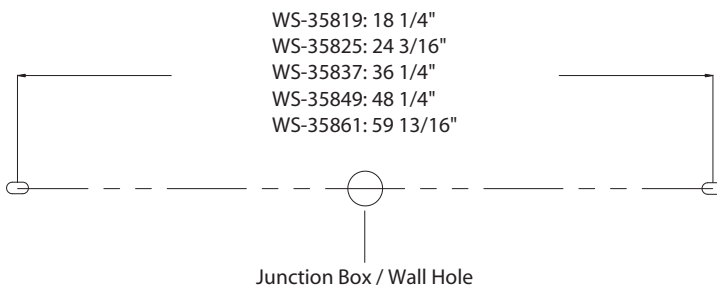

Fig.3 Wiring
3. Drill a fixture mounting hole according to (installation location), insert the plastic anchor (F). Line up the center line of the drill holes with respect to the center line of the junction box to allow the decorative plate (E) properly cover up the junction box opening on the wall.
4. Secure the decorative plate (E) to the fixture with assembly screw (C), then replace the existing silicon gasket with the supplied silicon gasket (D).
5. Remove the mounting screw (B) and the end cap from the fixture.
6. Connect the fixture's wires to house wires as shown in Fig.3, making sure that all wire connectors (A) are secured. If your outlet box has a green or bare copper ground wire, connect the fixture's ground wire to it. Otherwise, tuck the fixture's ground wire directly to the fixture. After wires are connected, tuck them carefully inside the junction box.
7. Slide acrylic diffuser and PC strip slightly out of the way to review the plastic anchor location on the back, then fasten the fixture to the wall using wood screw (G), make sure to align the decorative plate to adequately cover the junction box wall opening.
8. Secure the end cap to the fixture using mounting screw (B) to seal the acrylic diffuser.
3. Drill a fixture mounting hole according to (installation location), insert the plastic anchor (F).
4. Remove the mounting screw (B) and the end cap from the fixture.
6. Connect the fixture's wires to house wires as shown in Fig.3, making sure that all wire connectors (A) are secured. If your outlet box has a green or bare copper ground wire, connect the fixture's ground wire to it. Otherwise, tuck the fixture's ground wire directly to the fixture. After wires are connected, tuck them carefully inside the wall hole.
7. Slide acrylic diffuser and PC strip slightly out of the way to review the plastic anchor location on the back, then fasten the fixture to the wall using wood screw (G).